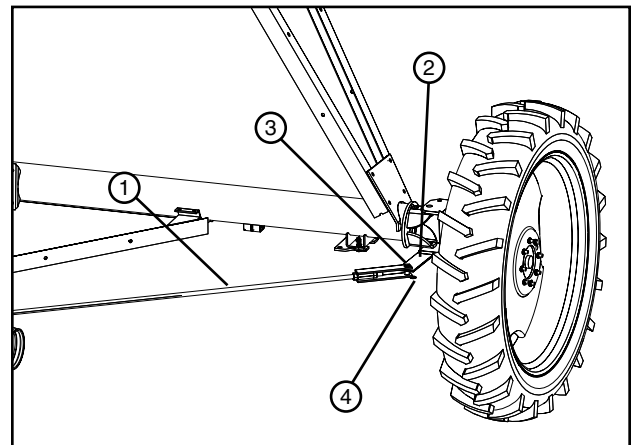

Figure 61-2 1. Tie Rod 2. Steering Arm 3. Clevis Pin 4. Hair Pin
2. Connect end of tie rod to steering arm with one clevis pin and hair pin. See figure 61-2.